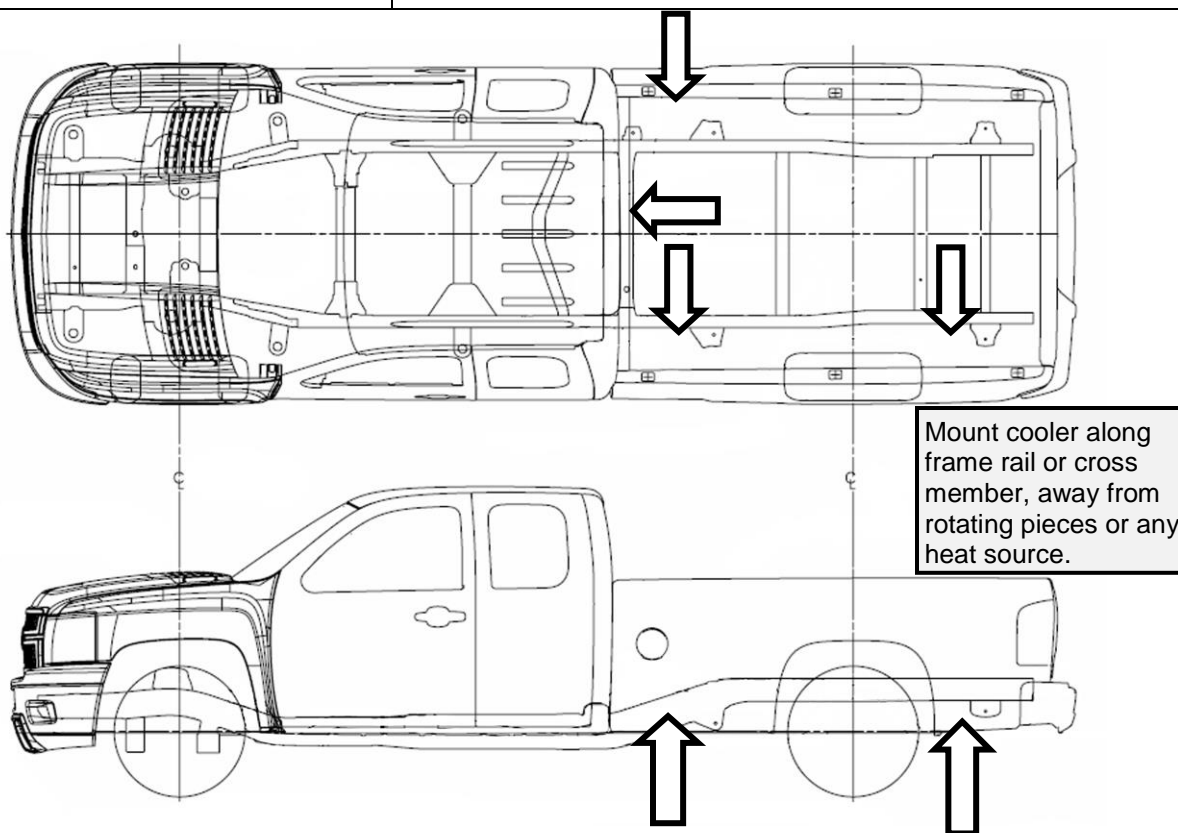

Fig.2
3) Locate suitable location to mount transmission cooler. Choose a location where there will be adequate airflow through the cooler. If the cooler is mounted against a surface ensure there is at least 1" of clearance behind the cooler and that it is away from heat sources, rotating parts and debris.(fig.2)